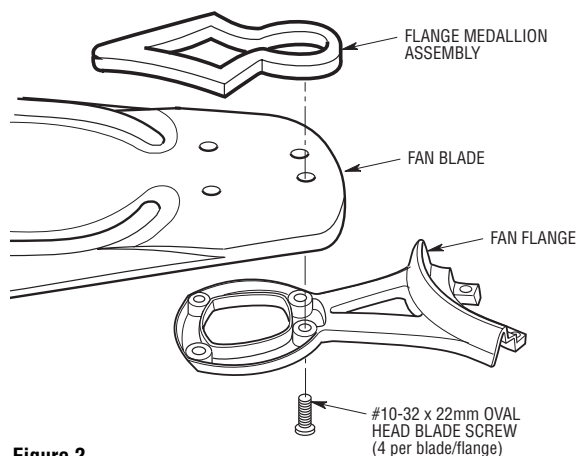

Figure 2
1. Position the flange medallion upside down on a soft, clean surface. Place the blade with the decorative side facing down onto the flange medallion. Attach the flange assembly to the blade and flange medallion using the four #10-32 x 22mm oval head screws as shown in Figure 2. Repeat for the four remaining blades.